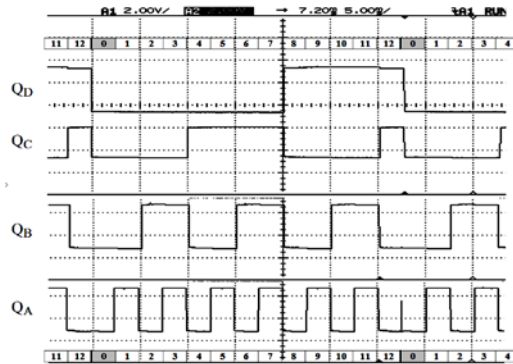

Figure 2.5. Expected waveforms for a mod-13 counter.
As an example: the diagram shown in Figure 2.5 is for $N = 13$. The display starts at the left shortly before QD goes low to trigger a new cycle of 13. The count proceeds from 0000 to 1100 (12) for a total of 13 full count periods. It then enters 1101 (13) just long enough to reset itself to 0000 again. Notice that, at the end of count 12, QA shows a short spike as it rises and then immediately falls, having reset all the Q's, including itself, to 0. This spike is much too narrow to be seen at the scope settings you will be using since it only lasts about 50 nanoseconds. But it is there (it must be, or what else would reset the counter?).